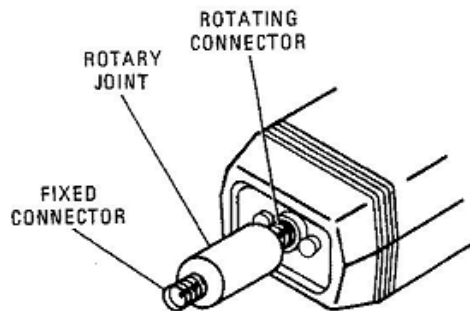

Figure 17. RF Rotary Joint Mounted on Probe
3. Screw the rotating end of the rotary joint clockwise into the probe's SMA connector (see Figure 17).